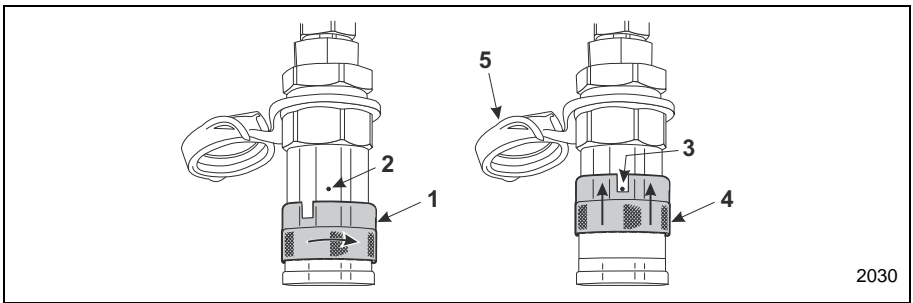

Figure 14 Quick Connect Locking Collar
3. Some of the female couplings will have a lock button preventing accidental disconnection. To release this type of quick connect, rotate the collar on the female quick connect (Item 1, Figure 14) to align the notch on the collar with the lock button (Item 2, Figure 14).
4. Slide the collar backwards on the female quick connect (Item 4, Figure 14) until it stops against the lock button. The male connector will be released.